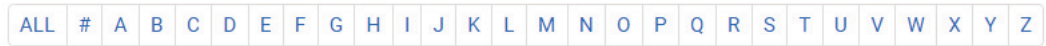

Figure 7. Alphabetic Navigation Bar
- If there is no direct link to your software, an alphabetic navigation bar is provided (see figure 7). Click the appropriate letter to locate the software or firmware.